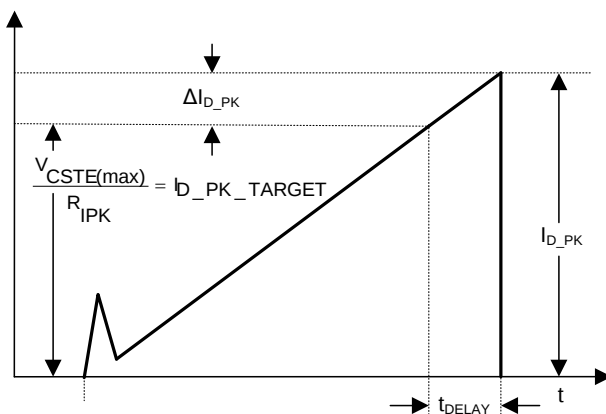

Figure 26. Propagation Delay Effect on the Primary Current Peak
During normal operation the on-time is determined by sensing the power FET current and switching off the power FET as this current reaches a threshold fixed by the feedback loop according to the load condition. The power FET is not immediately turned off and its current, that is also the primary winding current, continues to rise for some time during the propagation delay (t_{DELAY} in Figure 26). Keeping the reference for the PWM comparator constant, the value of the primary winding peak current depends on the slope of the primary winding current and t_{DELAY} . The slope of the primary current is proportional to the flyback stage input voltage (V_{BULK})
The current loop estimates the output current assuming the primary winding peak current is equal to the $I_{D_PEAK_TARGET}$ and compares this estimated current with a reference to obtain the current regulation. Considering, I_{D_PEAK} is different from $I_{D_PEAK_TARGET}$ (see Figure 26) we need to compensate the effect of the propagation delay. The UCC28910 and the UCC28911 incorporate fully-integrated propagation-delay compensation that modifies the switching frequency keeping the output current constant during (CC) Constant Current Mode operation. This function is integrated in the controller and requires no external components. This feature keeps the output current constant despite input voltage variations and primary inductance value spread.